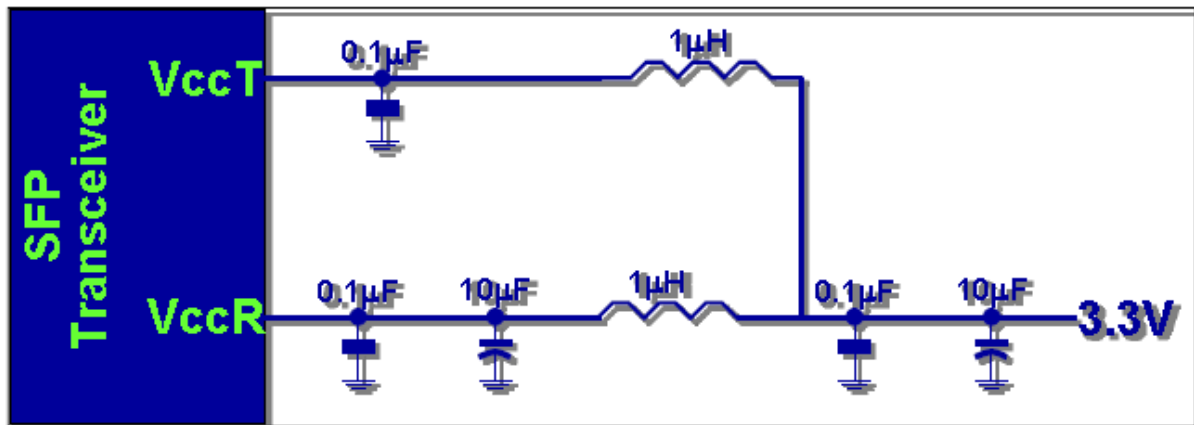

Figure 3-2 Power Supply Filtering Configuration. (Provided on the Host Board).
- (1) Please refer to Figure 3-2 for power filter configuration.
- (2) When power supply is using the filter configuration of Figure 3-2